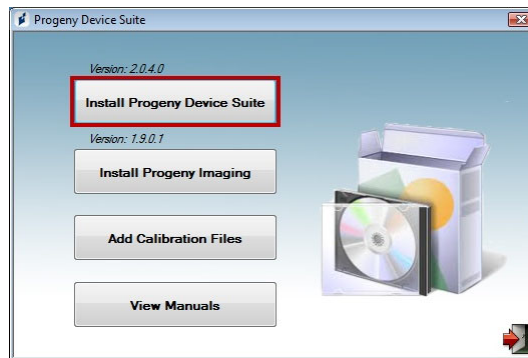

Figure 2: Starting the Progeny Device Suite installation
- Start the installation process by clicking on 'Install Progeny Device Suite' button (Figure 2).